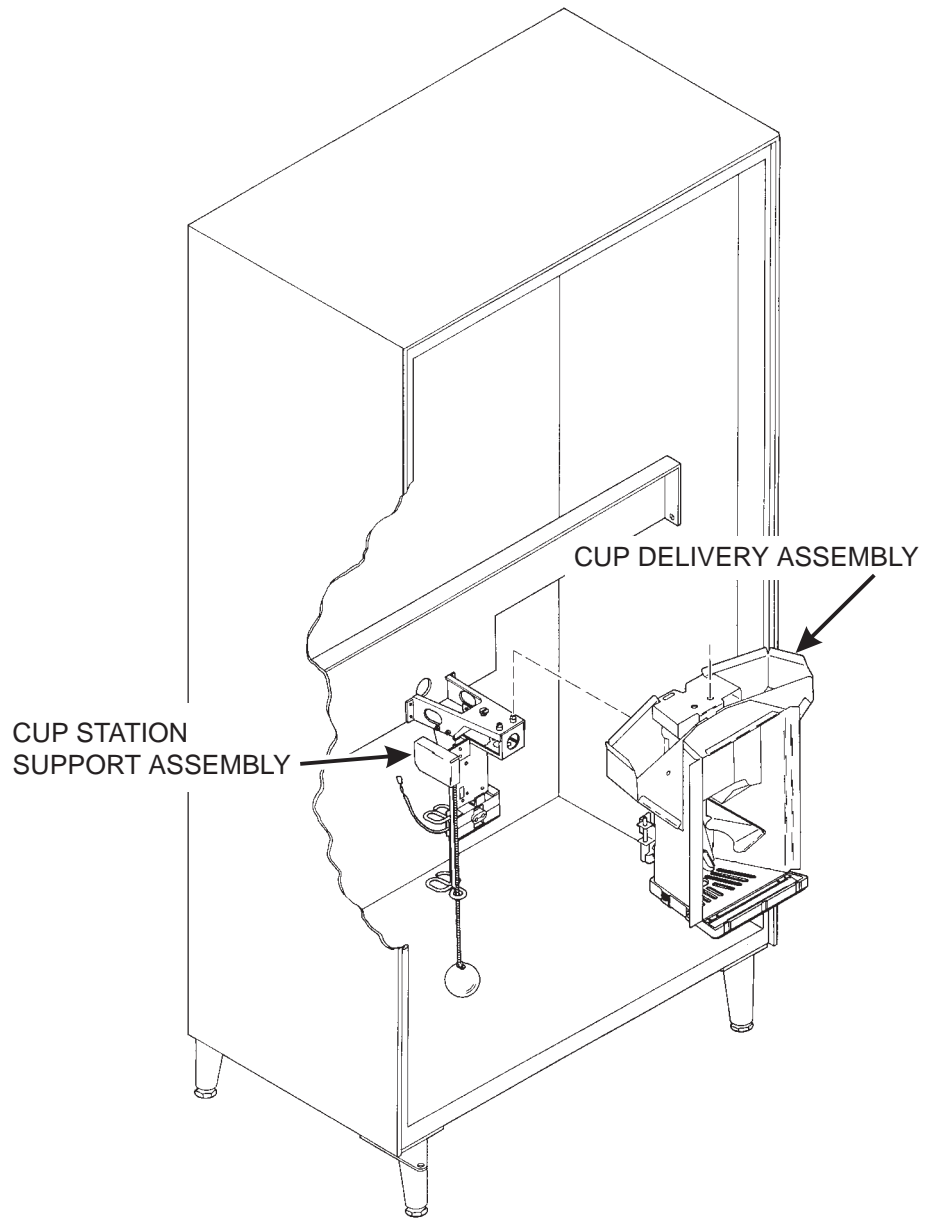

Figure 1
1. Remove the cup delivery assembly from the machine (figure 1).